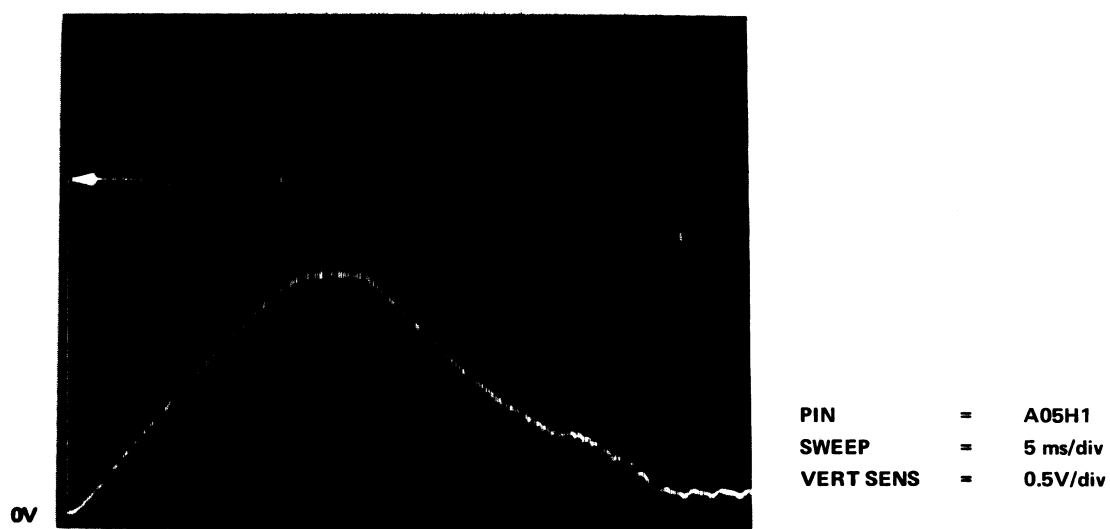

Figure 6-6 Acceleration Waveform
- c. Observe disk drive A05H1 (VELOCITY) for a velocity profile as illustrated in Figure 6-6.